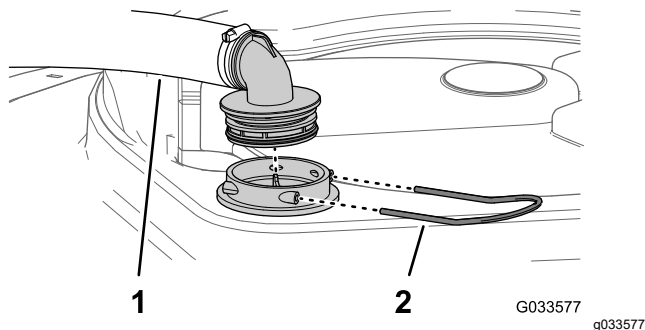

Figure 29
2. At the top of the sprayer tank, remove the retainer that secures the hose fitting attached to the large hose from the filter housing (Figure 29).
3. Remove the hose and hose fitting from the filter housing (Figure 29).